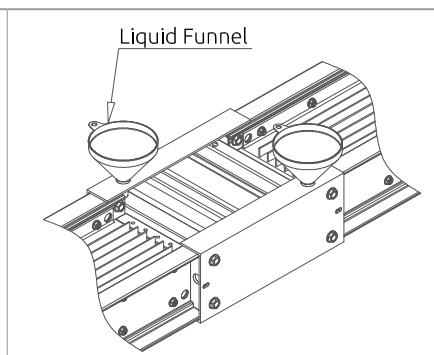

Figure 10.4
6. Concurrently pour the mixed compound into both holes using liquid funnel until full and **countercheck it in full condition after 30min** as shown in Figure 10.4. Complete cure time is in 8-12 hours @ 25°C or 1 hour @ 80°C.